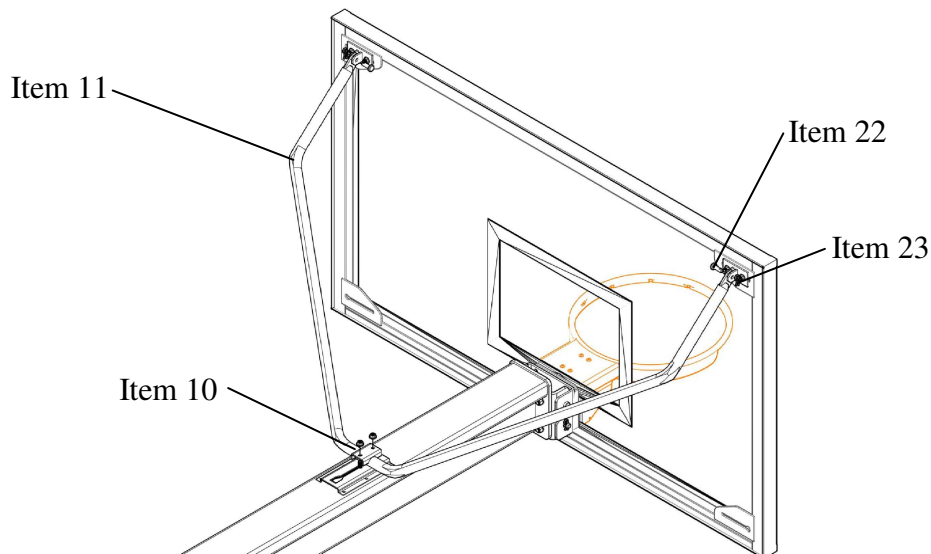

Figure 5
9. Attach the Backboard brace yoke (item 11) to the brackets installed in step 7 using the Clevis Pins (item 22) and Retainer Clips (item 23) as shown in figure 5.
10. Position the backboard brace clamp (item 10) over the yoke and yoke attachment plate on the boom as shown in figure 5. Secure the clamp with two 3/8-16 x 2-1/4" carriage bolts and whizlock nuts.